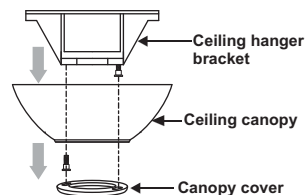

Figure 5
Step 1. Remove the decorative canopy bottom cover from the canopy by turning the cover counter clockwise. (Fig. 5)
Step 2. Remove the hanger bracket from the canopy by removing the non-slotted screws from the bottom of the mounting bracket and loosening the slotted screw a half turn from the screw head. Next, turn the canopy counter clockwise to removing the hanger bracket from the canopy. (Fig. 5)